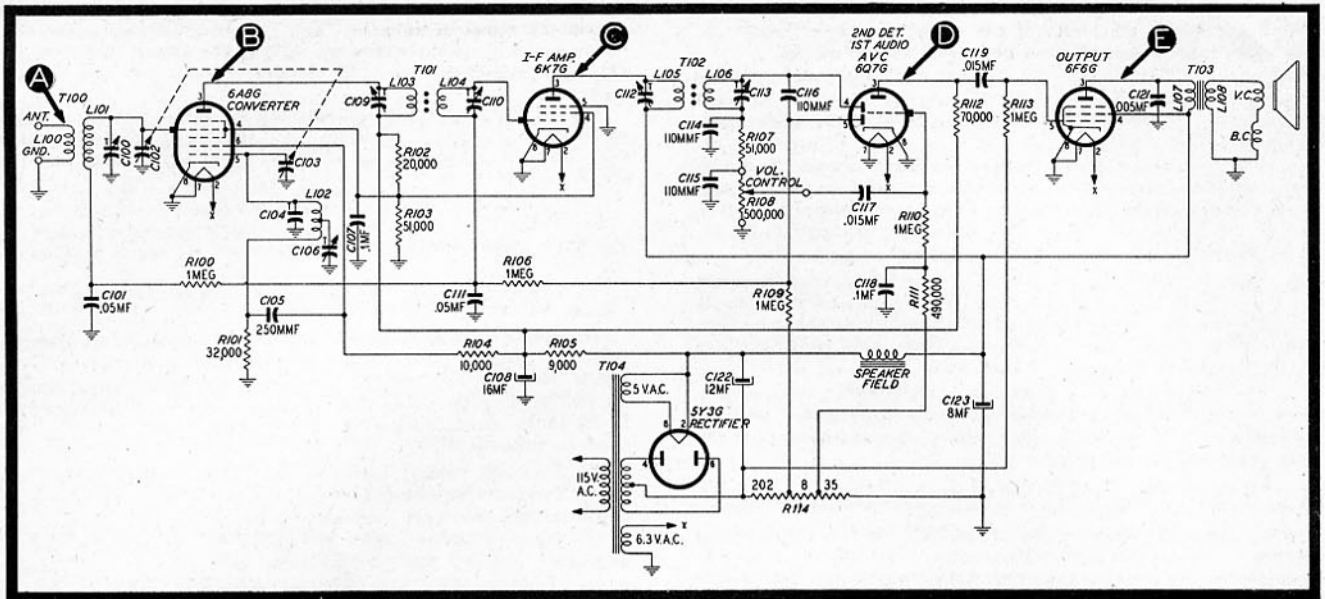

Figure 2. Circuit of Typical Superheterodyne
4. After a radio has been serviced, gain measurements, made at a few vital points (such as the test points indicated in figure 2), and tabulated for future reference, will be of great value in servicing another radio of the same model. Many hard-to-find troubles can be located with the aid of such data.
The schematic shown in figure 2, which represents an average radio, is used to illustrate the trouble-shooting procedure. Test points, lettered "A," "B," "C," etc. are used to indicate points to be contacted by the probe of the Dynamic Tester. With the power to the radio, signal generator, and Dynamic Tester turned on, proceed as follows:
2. Place probe at point "A" (figure 2). Tune radio dial for maximum output. Reduce generator output. Use low output-meter range such as 3 or 5 volts. Adjust generator output for $\frac{1}{2}$ -volt indication.